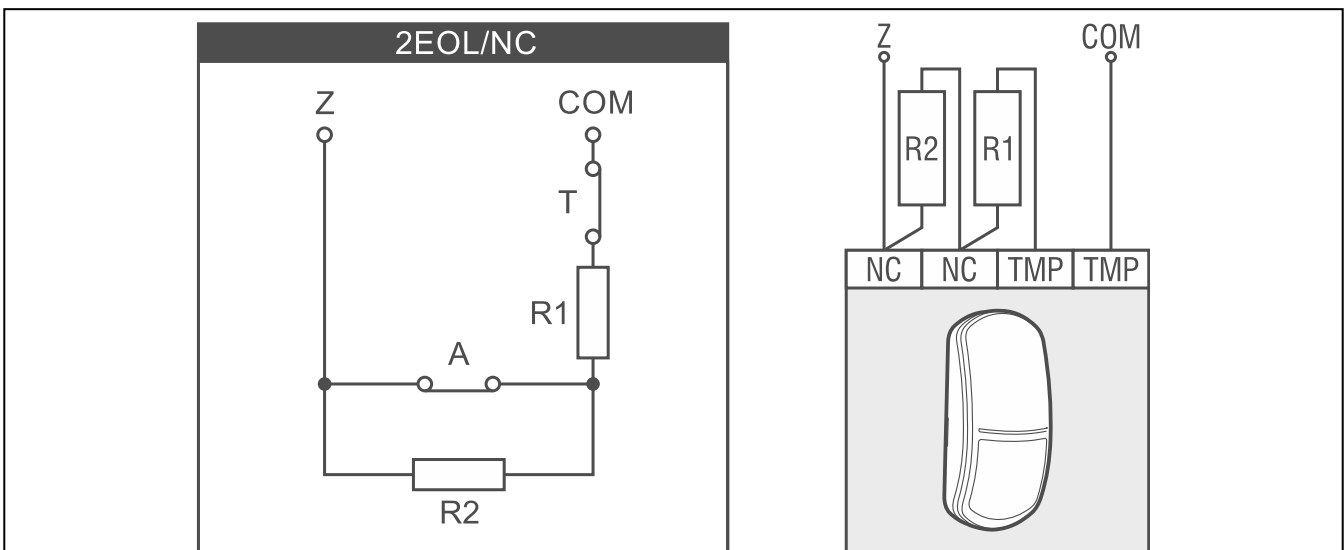

Fig. 28. Numbering of EOL resistors (same for the NO detector). T – tamper output. A - alarm output.
**R1** – value of the R1 resistor (see Fig. 28). You can enter values from 500 Ω to 15 kΩ. By default: 1.1 kΩ.
**R2** – value of the R2 resistor (see Fig. 28). You can enter values from 500 Ω to 15 kΩ or 0. If you enter 0, the value of resistors used in the Double EOL configuration must be equal to half the value programmed for the R1 resistor (the value of one resistor must not be less than 500 Ω). By default: 1.1 kΩ.